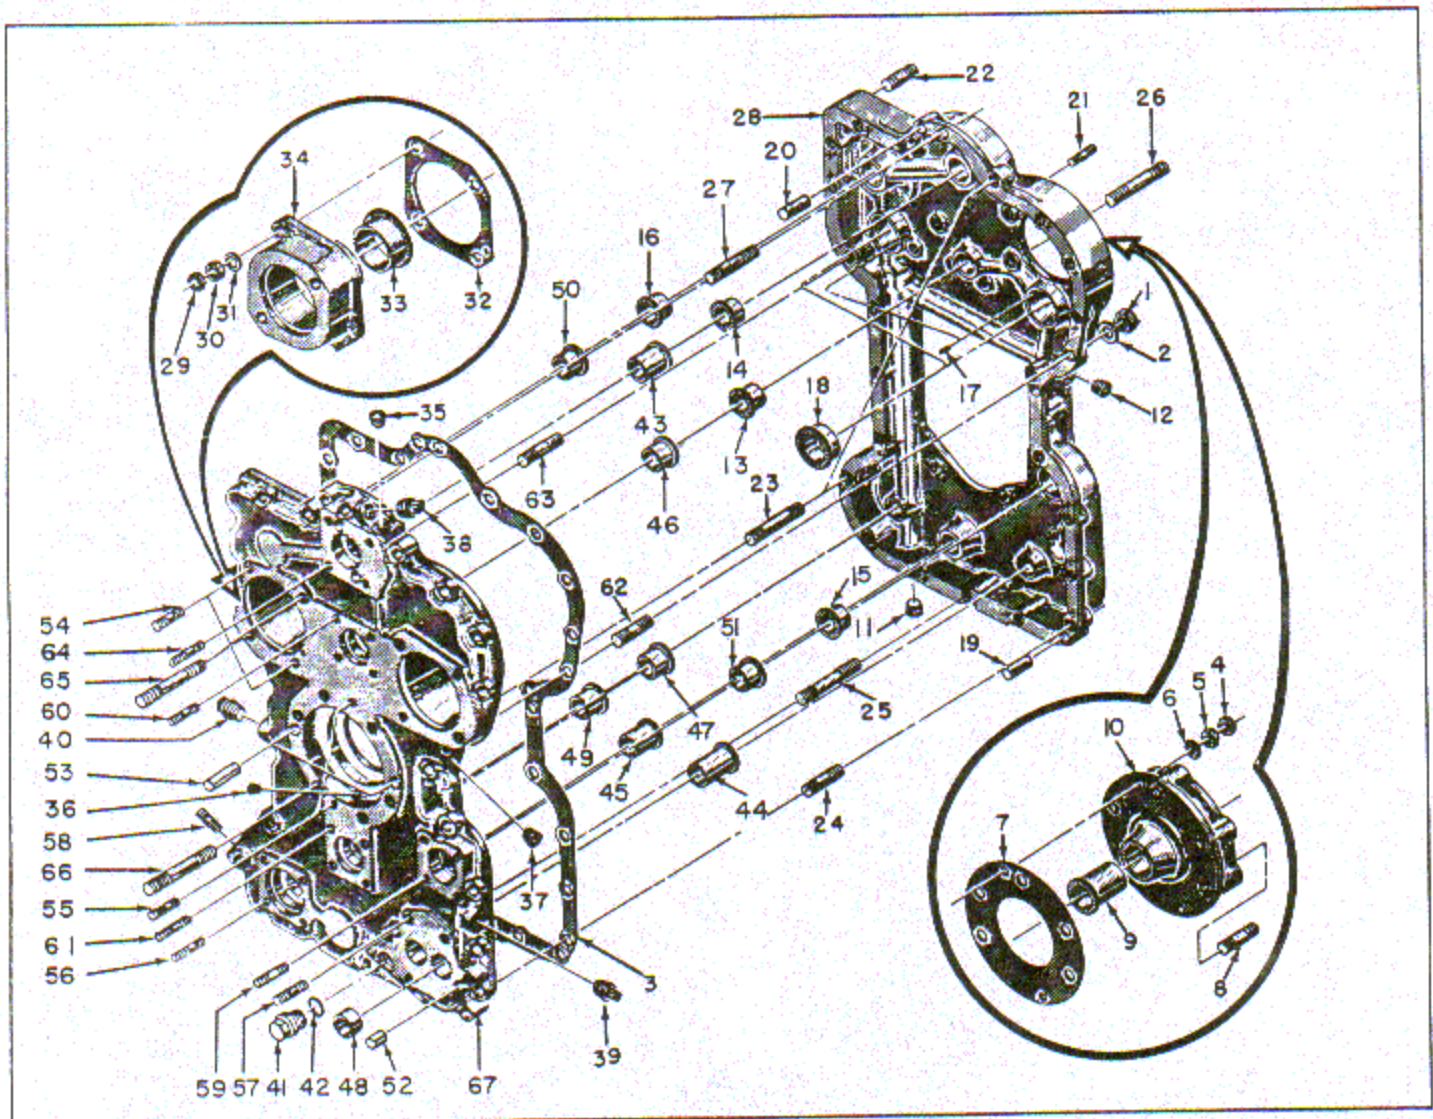

Figure 2-4. View of Accessory Case Front and Rear Machining Assembly (Sheet 2 of 2)
2-41. MACHINING AND STUDDING ASSEMBLIES. (See figure 2-4.) The accessory case front half (28) machining and studding assembly is composed of the magnesium casting, its studs, bushings, pipe plugs and dowels, the generator adapter assembly, and its attaching parts (4, 5, 6, and 7). The generator adapter assembly consists of the generator adapter (10), generator drive bushing (9) and the bottom stud (8) of six which attach the generator. The other five generator attaching studs (26) are driven in tapped holes in the adapter mount pad of the case and project forward through adapter holes and beyond the generator mount pad. The adapter is attached to two case studs (21).
Four studs (22) are driven into tapped holes of the upper hydraulic pump pad to attach a pump or cover. One long stud (25), two long studs (23) and 14 shorter studs (24) are driven into tapped holes in the front half parting flange for attachment of the two halves. Steel dowels (19 and 20) are pressed into front half parting flange holes that fit closely in matching holes of the rear half casting to align the two halves of the case. Flanged bronze bushings (13, 14, 15, 16, and 18) are pressed into bored and oil grooved bosses of the front half. The boss oil grooves are fed by a network of drilled holes, and the bushing walls are drilled through to admit oil to the bearing surfaces. The accessory case rear half machining and studding assembly is composed of the accessory case rear half (67), its studs, bushings, pipe plugs and dowels, two cast magnesium magneto adapter assemblies and their attaching parts (29, 30, 31, and 32). The front half machining and studding assembly is sealed to the rear half assembly by a gasket (3) and the two halves are attached for shipment by two plain washers (2) and plain nuts (1). These assemblies and attaching parts constitute the accessory case front and rear machining assembly. Nut locks (44, figure 2-3) are not supplied with this assembly as a spare part, nor are attaching parts in figure 2-3 numbered 35, 36, 37, 38, 39, 40, 41, 42, and 43, though these parts are installed when the complete case is built up. The last named attaching parts are installed on studs of the front half assembly which project through rear half bosses of various depths. In figure 2-4, attaching parts numbered 1 and 2 are installed on studs (62 and 63) which are driven in the parting flange of the rear half. Bushings installed in the rear half are similar to those in the front half and are drilled to receive oil from case grooves connected by an upper and a lower network of drilled holes. Magneto and generator adapter bushings are also drilled for lubrication and the adapters are grooved and drilled to receive oil from the case passages. The magneto adapter assemblies are composed of adapters (34) and bushings (33). These assemblies and the generator adapter assembly are installed before their bushings are finish bored. This is necessary in order to line bore front and rear magneto gear bushings and to bore these and the generator adapter bushing at the correct distances from other bushings to maintain the correct gear spacing and backlash.